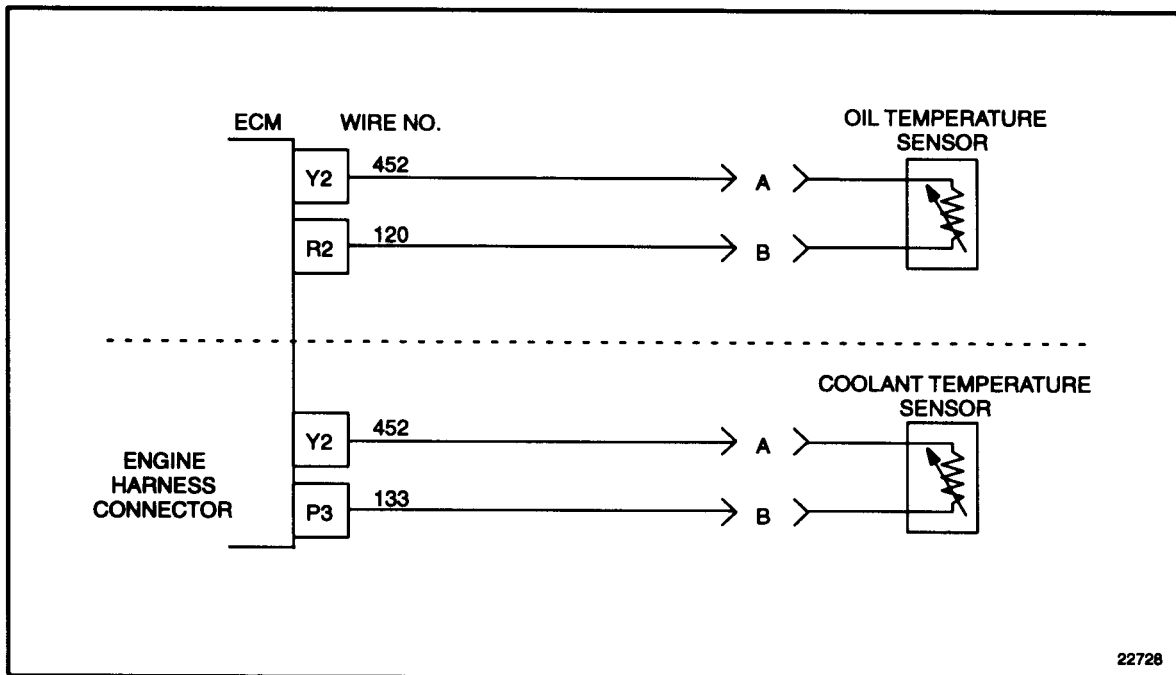

Figure 14-3 Temperature Sensor Circuits
2. Disconnect OTS and install a jumper between OTS connector sockets A and B. See Figure 14-3.